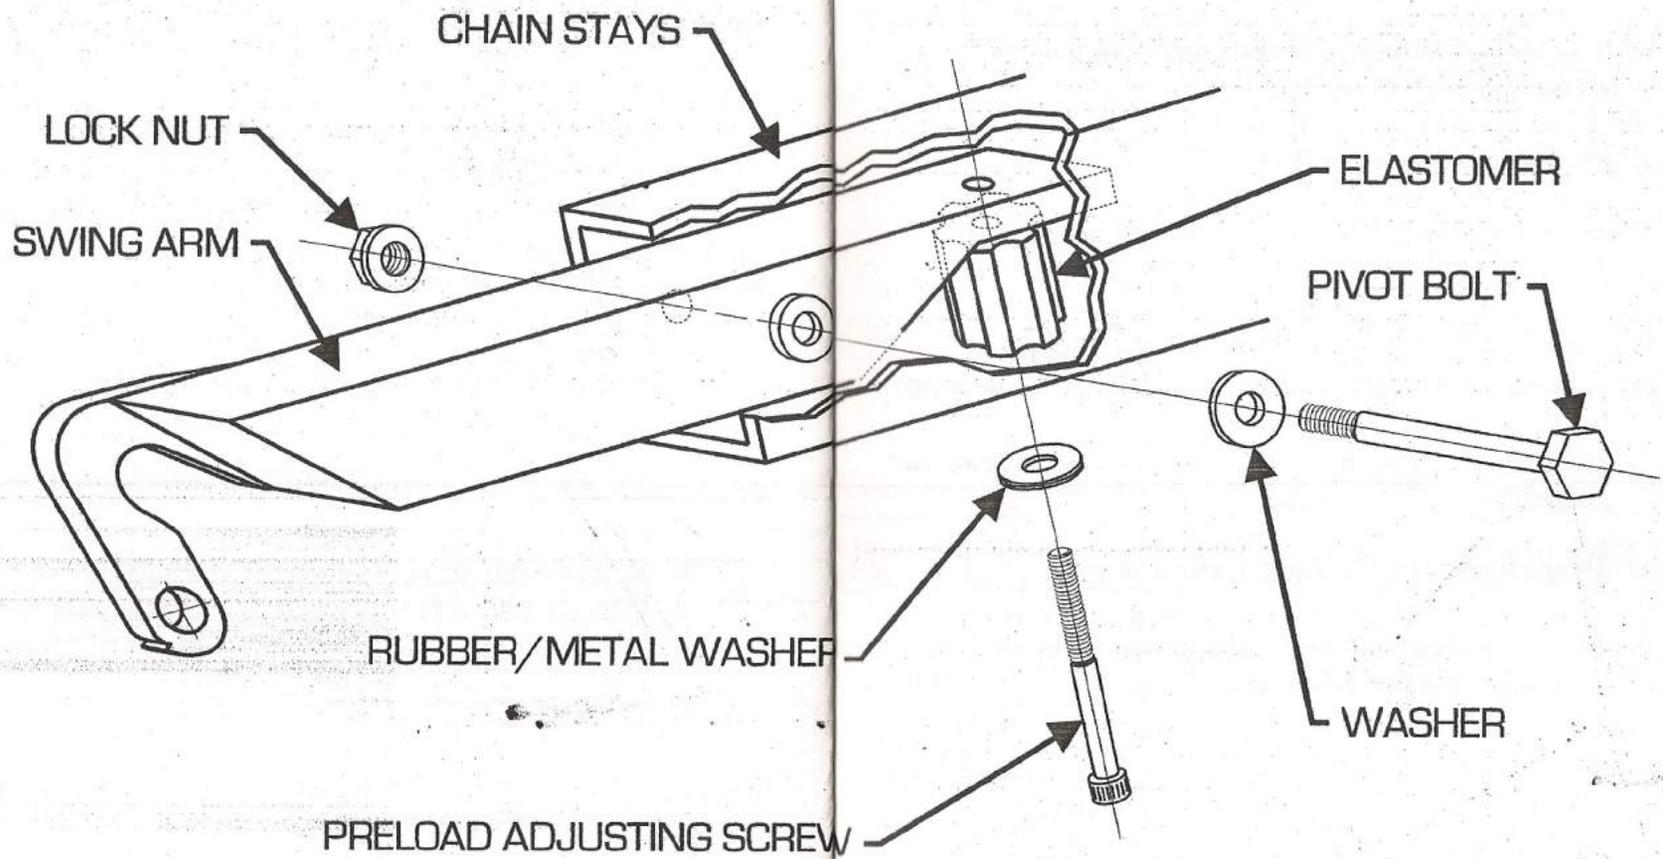

Fig 5.1
5.6.1 To change out the elastomer, perform the following steps (See Fig 5.1):